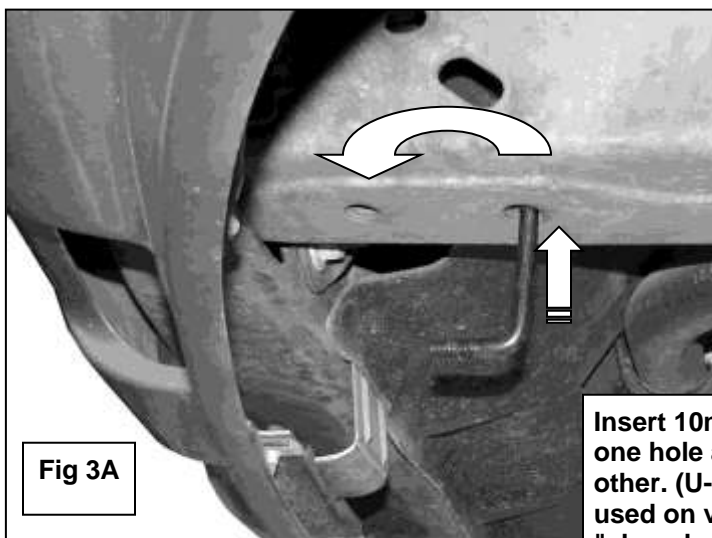
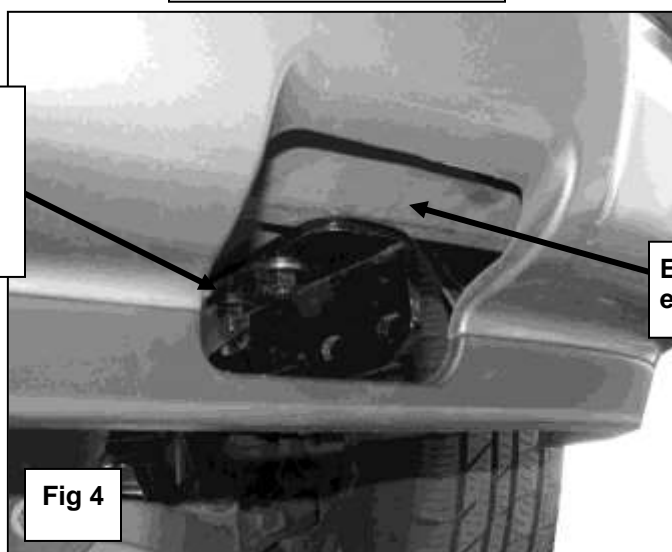

Fig 3A
Fig 4
Starting on the driver side of the vehicle, locate the two holes on the bottom of the frame. Insert (1) 10mm U-Bolt into one hole and out the other, **(Figure 3A & 3B)**. Hold the driver side Mounting Bracket in position with the slotted end toward the rear. Secure the Mounting Bracket to the U-Bolt with (2) 10mm x 27mm OD x 3 mm Flat Washers, (2) 10mm Lock Washers and (2) 10mm Hex Nuts, **(Figure 4)**. Snug but do not tighten the hardware.